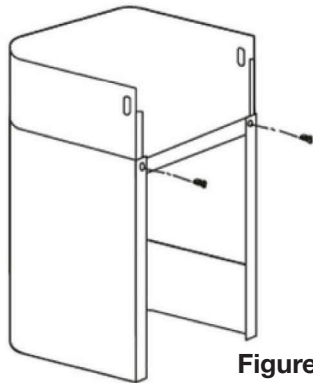

Figure 6
- Use two screws to fix the two chimneys together with the lower chimney bracket, make sure upper chimney is moving freely (see Figure 6).